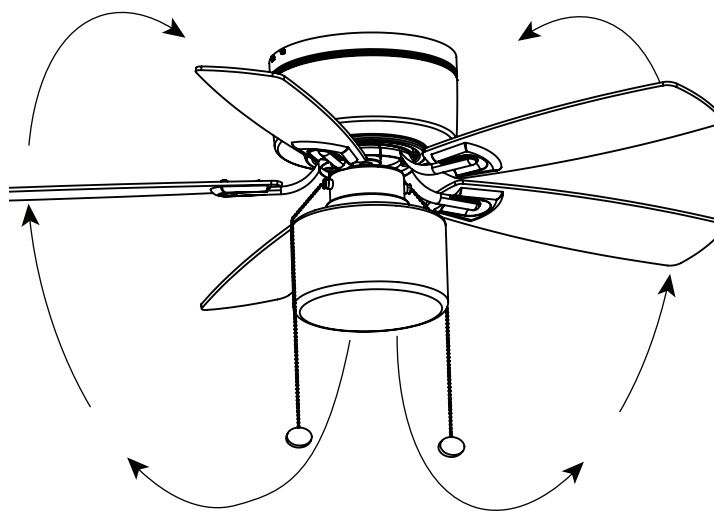

Figure 15
**Warm weather – (Forward)** A downward airflow creates a cooling effect as shown in Figure 15. This allows you to set your air conditioner on a higher setting without affecting your comfort.